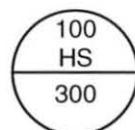

Figure 75. Instrument Tag
2. Identify the loop and area the device is in using the instrument tag in figure 75.